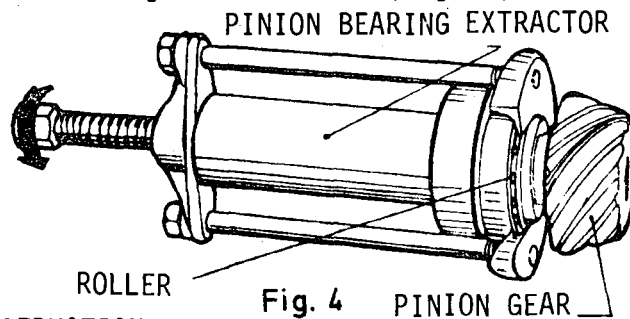

Fig. 4
- d) Remove the bearing of the drive pinion using an extractor (fig. 4).